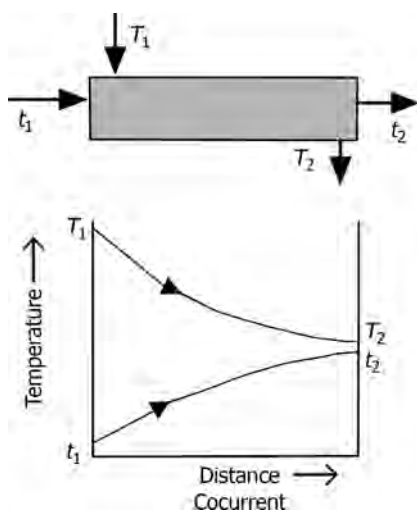

FIGURE 10.37 Temperature profiles for cocurrent flow.
- *Cocurrent or Parallel Flow:* The two fluids enter the heat exchanger from the same end with a large temperature difference (Figure 10.37). As the fluids transfer heat, hotter to cooler, the temperatures of the two fluids approach each other. It should be noted that